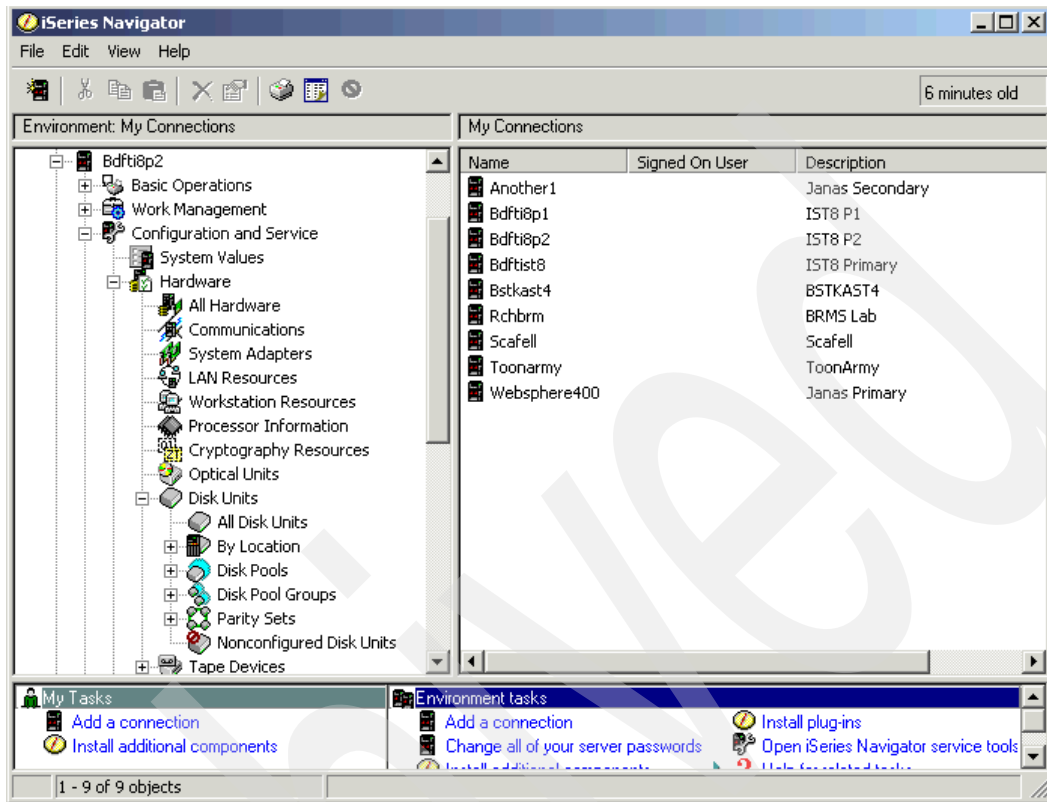

Figure 17-8 System i Navigator Disk Units
- Expand **Configuration and Service** → **Hardware** → **Disk Units**, as shown in Figure 17-8.